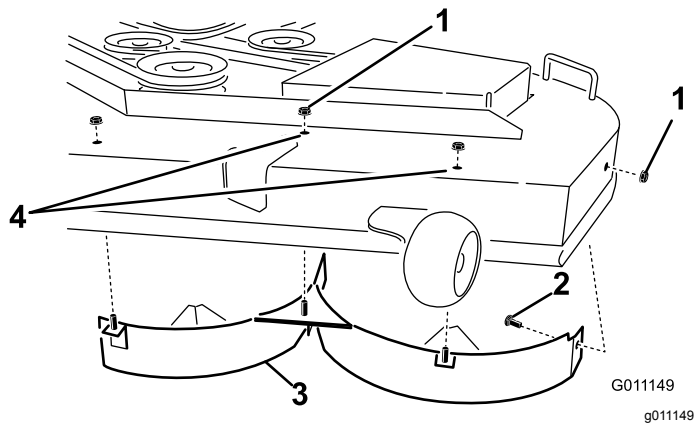

Figure 35
4. Remove the 3 locknuts (5/16 inch) secured to the welded posts of the left baffle on the top of the mower deck at the center, left of center, and left positions (Figure 35).
5. Remove the carriage bolt and locknut on the side wall of the mower deck securing the left baffle to the deck (Figure 35).
6. Remove the left baffle from the mower deck (Figure 35).
7. Locate the 2 bolts in loose parts and use the existing locknuts and install these fasteners into the holes shown in Figure 35 on the mower deck to prevent flying debris.